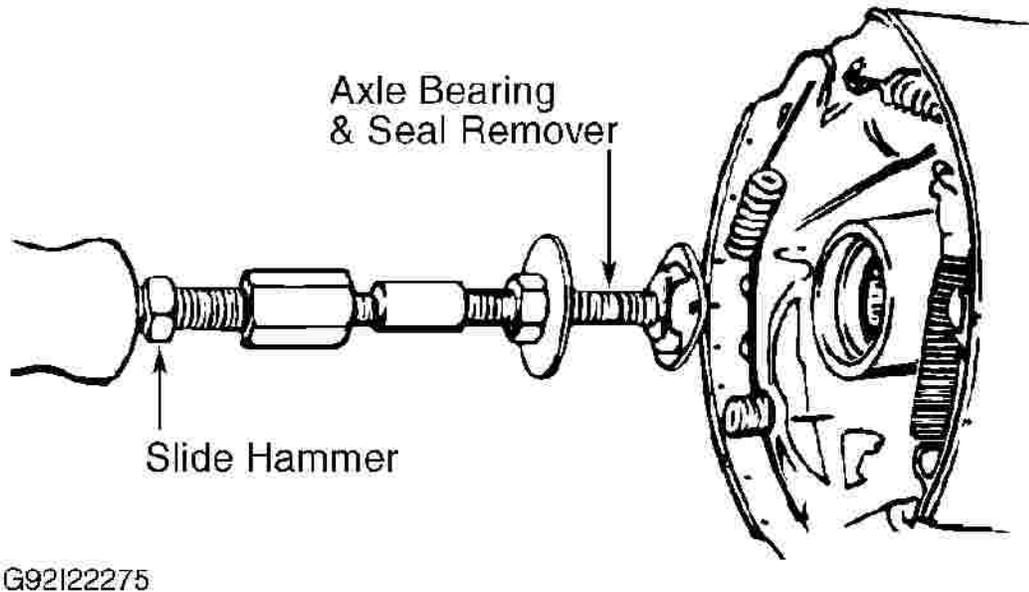

Fig. 3: Removing Axle Bearing & Seal
5. On all assemblies, insert Axle Bearing & Seal Remover into axle housing behind bearing. Attach Slide Hammer (J-2619) and Adapter (J-2619-10) to bearing remover. Remove axle bearing and axle seal. See Fig. 3.